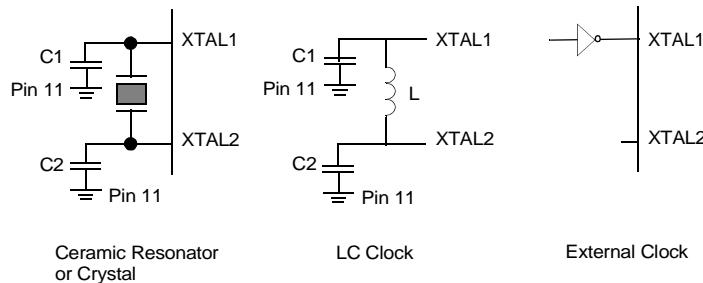

Figure 17. Oscillator Configuration
The Z86E61/E63 on-chip oscillator has a high gain, parallel resonant amplifier for connection to a crystal, LC, ceramic resonator, or any suitable external clock source (XTAL1 = Input, XTAL2 = Output). The crystal should be AT cut, 1 MHz to 16 MHz max; series resistance (RS) is less than or equal to 100 Ohms. The crystal should be connected across XTAL1 and XTAL2 using the recommended capacitors ($10 \text{ pF} < CL < 100 \text{ pF}$) from each pin to ground (Figure 17).